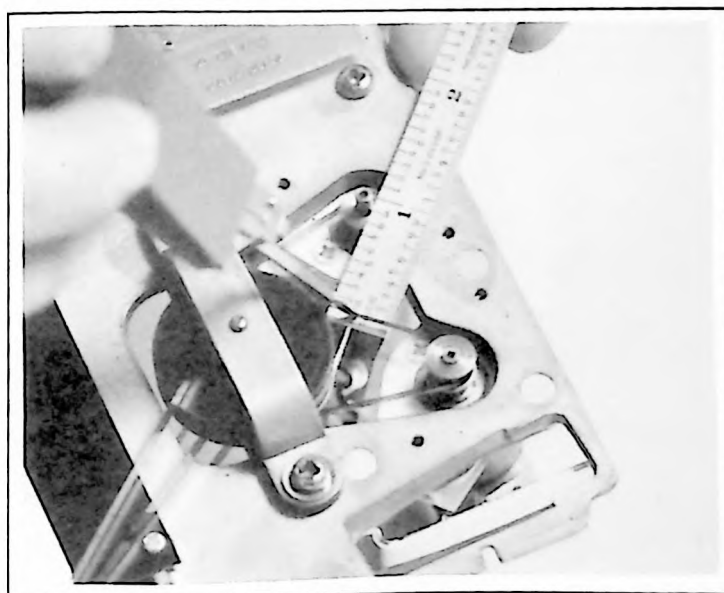

Figure 5-18. Drive Belt Tension Adjustment
a. Loosen screws (2) holding servo motor mounting clamp to motor.
b. Repeated adjustment (moving motor back and forth) may be necessary to ensure correct belt tension (belt deflection of 0.040 inch at 40 grams  $\pm$  5 grams). See Figure 5-18.
The point of deflection should be half way between points A and B (points of tangency). See Figure 5-18.